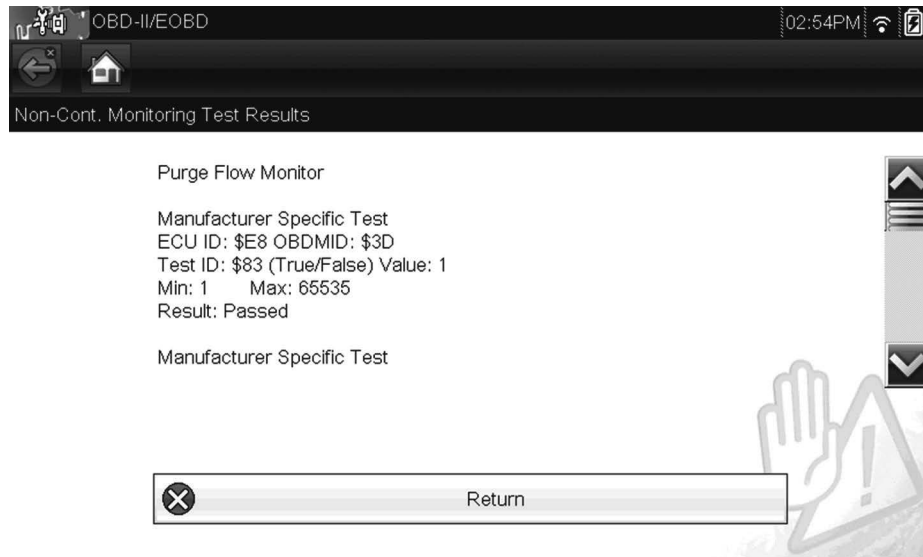

Figure 15 Typical - OBD-II/EODB Mode \$06 (\$3D) Purge Flow Monitor (Solus Edge/Modis Ultra)
- **\$3D - Purge Flow Monitor** - detects if purge flow from the charcoal cannister to the engine occurs or not (*Figure 15*)